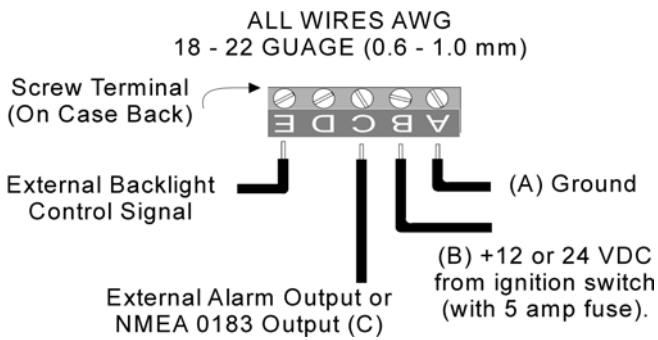

Figure 2
driver to make the connections to the screw terminal on the instrument case back as shown in figure 2.
- Carefully check all your wiring against those shown in figure 2. If everything is wired correctly you can mount the HY60 in the instrument hole. Be sure the bulkhead gasket is in place and use only finger tension to tighten the bracket hold-down nuts *Do not overtighten the bracket or you may damage the case - do not use tools to tighten the nuts.*